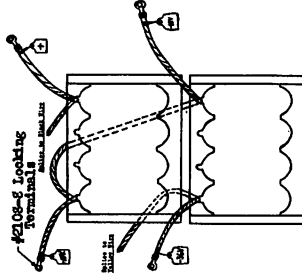

FIG. 1
- (d) Splice approximately 10# of #13 contacts (see Engineer's kit) to the end of each wire disconnected in operation from the terminals located in the amplifier panel, and pass these wires through the small insulating bushes in which the soldered contacts referred to in (c) were removed (see Fig. 1).
- (f) Pull the motor lead wire extensions tight, and cut off leaving approximately 1/2" of slack for easy connection to the #781 Battery Terminals. Solder to the end of each wire (see Fig. 1), one of the special tinned locking terminal lugs supplied for this purpose (see Section 5.).
- (g) To the respective wires, attach tags marked as per Fig. 1.
(1) No change in amplifier coding is required by this modification.
- (f) Pull wires taut, leave 3/4" of slack; attach #2108 Locking Terminal (obtained from District Office); and tag per Fig. 1.